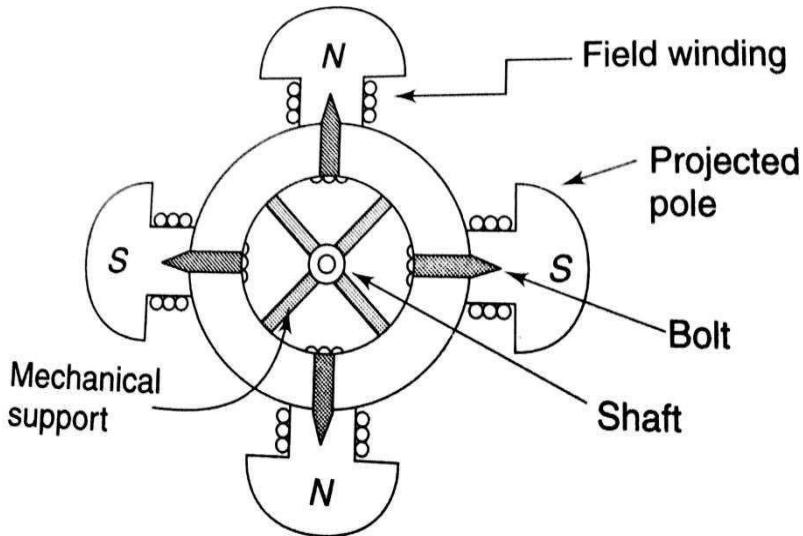

Figure 4.18 Salient pole type rotor
- To prevent these oscillations from going beyond bounds the damper winding is provided in the pole faces as shown in the *Figure 4.18*.